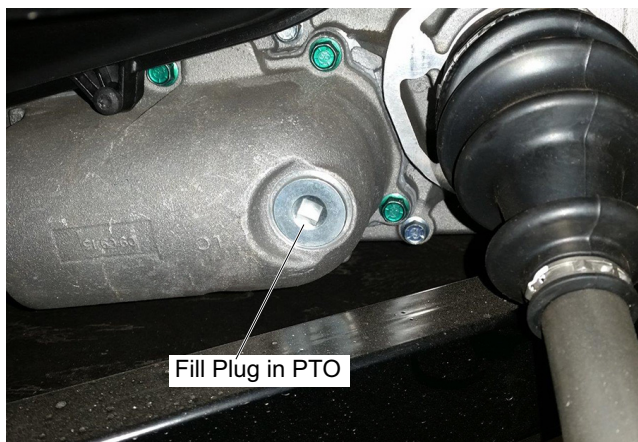

Fig. 14 Fill Plug
1. Remove the drain plug from the lower chamber of the differential and allow the oil to drain completely (Ref. Fig. 14).